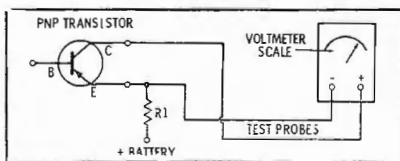

Fig. 5. Check for forward bias at base.
**Forward Bias Check**—Forward bias for a PNP transistor is checked in the operating circuit by connecting the positive voltmeter lead to the emitter and the negative lead to the base, as shown in Fig. 5. If bias voltage is not indicated on the meter, there will be no conduction. Excessive conduction will be caused by a too-high forward bias.